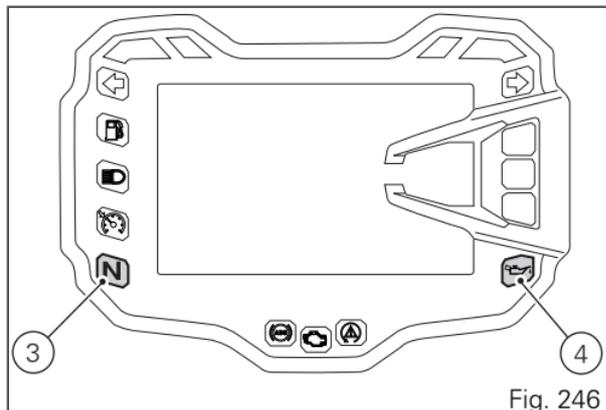

Fig. 246
The red oil pressure warning light (4, Fig. 246) should go out a few seconds after the engine has started. The engine will shut off by turning the red button (1) on the handlebar to RUN OFF. To turn on the "Hands free" system and all electronic onboard systems, refer to page 275 "Hands Free System".